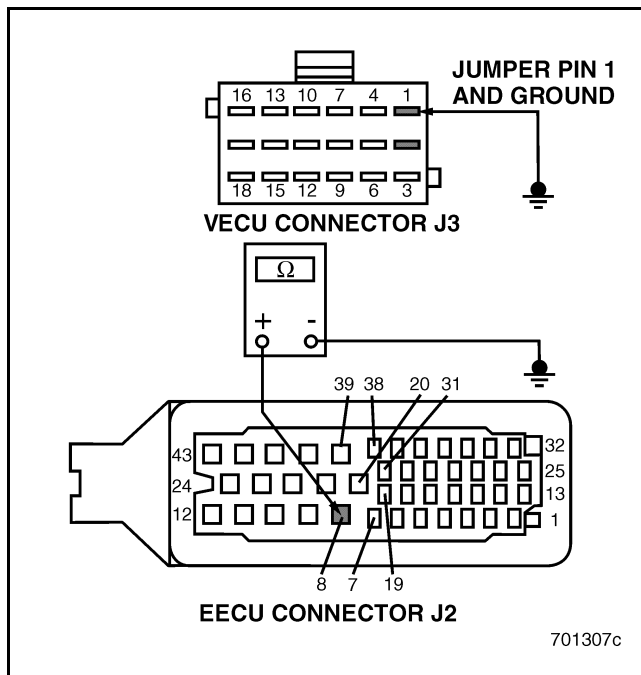

Figure 648
5. Check for continuity between EECU connector J2 pin 8 and a good ground (see Figure 648).